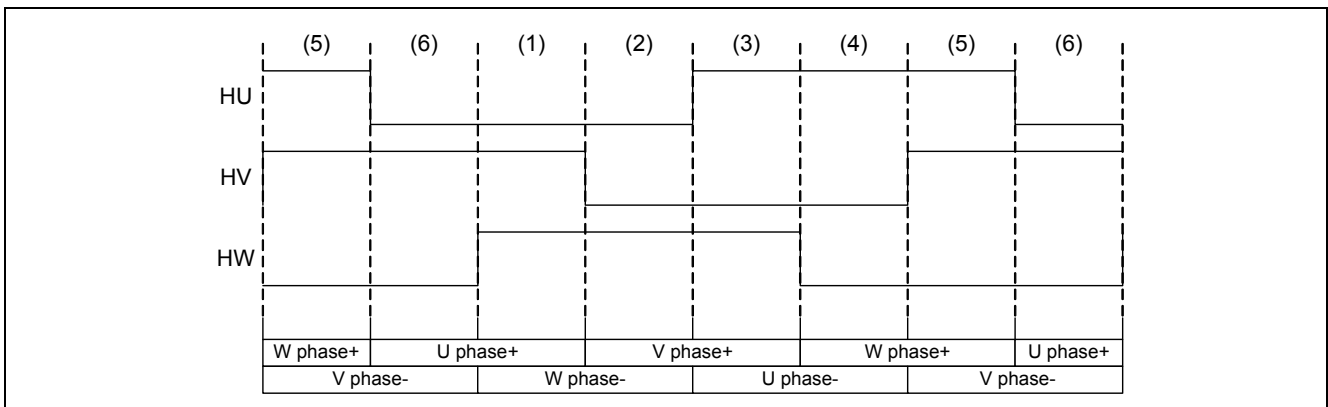
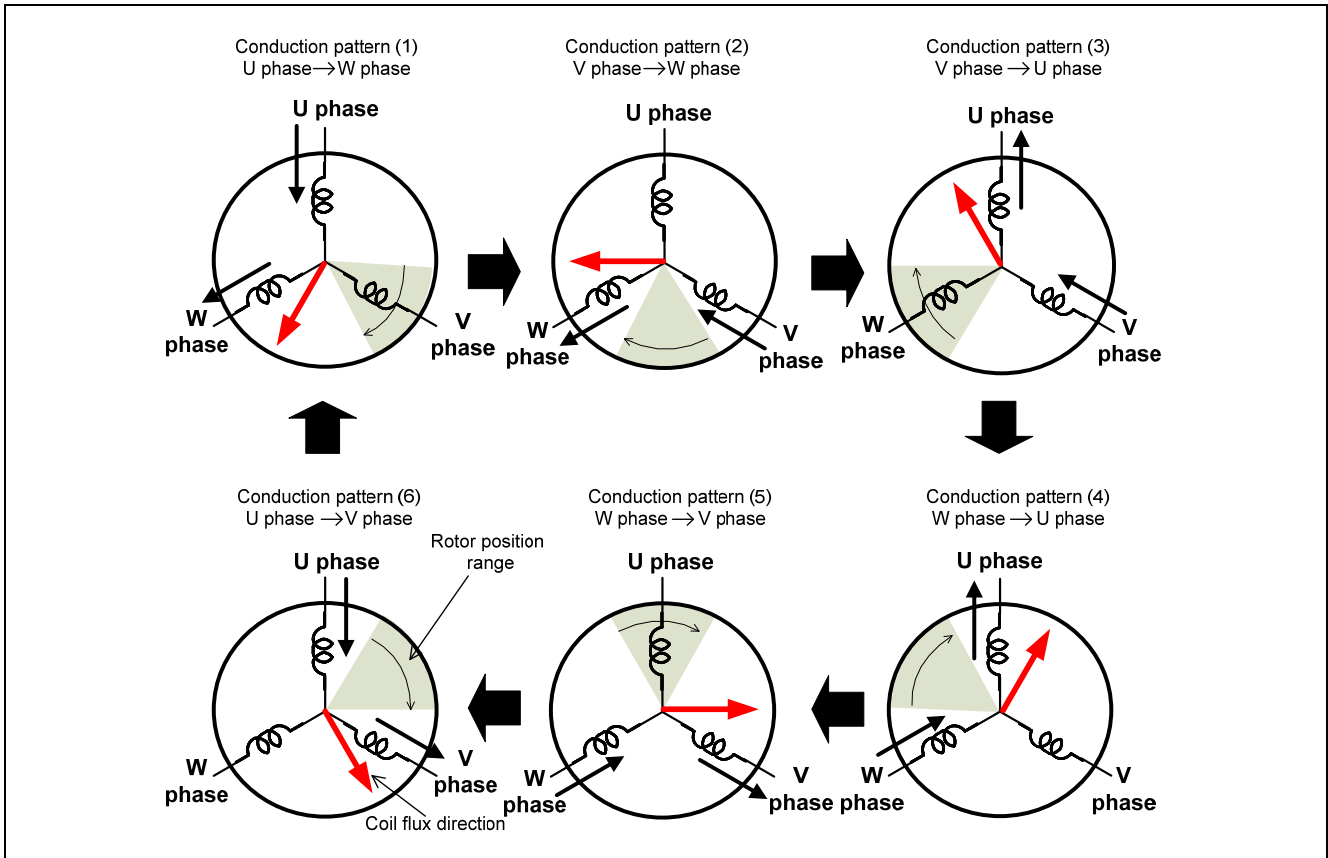

Figure 3-2 Relation between Hall Sensor Signals and Conduction Patterns (rotation direction: CW)
Figure 3-3 Six Conduction Patterns and Rotor Position Ranges
If the conduction patterns of each phase are changed in the switching timing of these hall sensor signals, as shown in Figure 3-2, rotating flux generated as shown in Figure 3-3. Then the rotor has the torque and rotates.
The relation between above-mentioned six conduction patterns and rotor position ranges is shown in Figure 3-3.
1. The relation between hall sensor signals and conduction patterns shown in Figure 3-3 is set to be suitable for this system. A different motor specification requires setting different conduction patterns appropriate to the system.